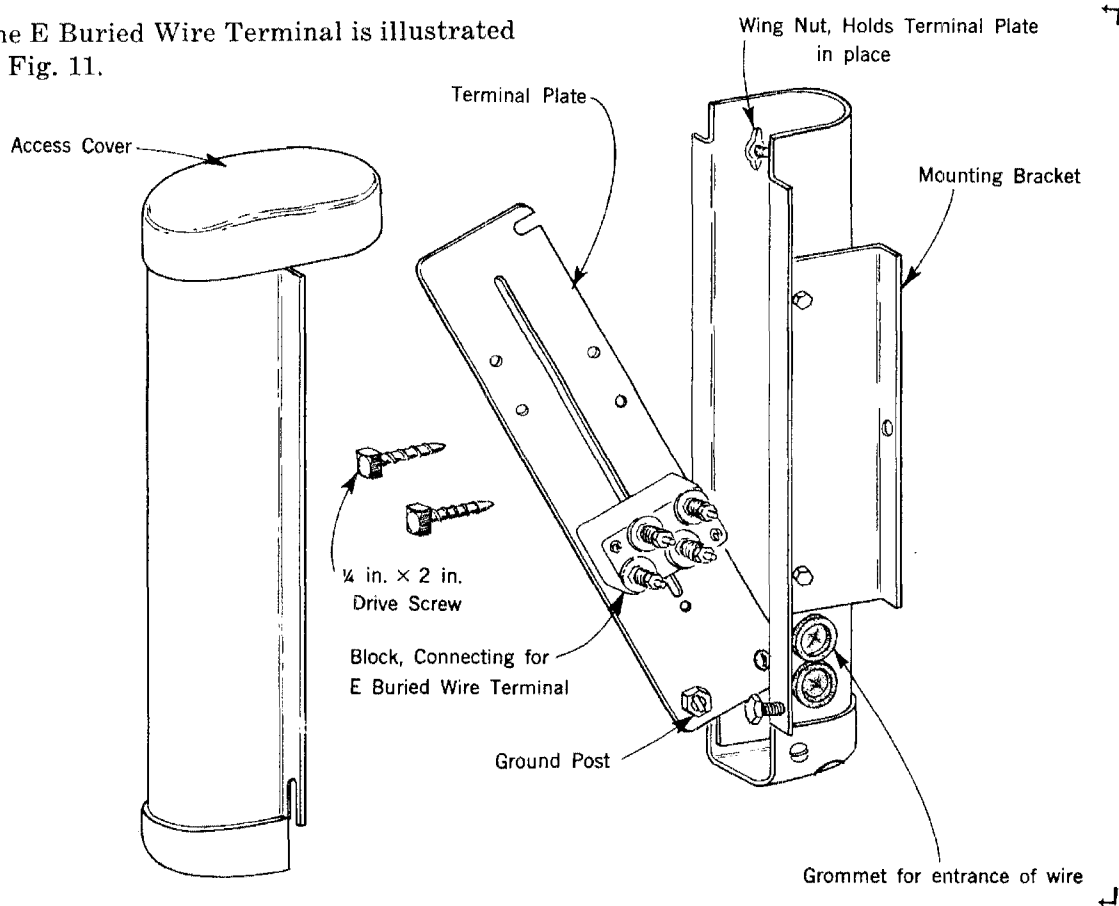

Fig. 11 – E Buried Wire Terminal
3.01 The E Buried Wire Terminal is illustrated in Fig. 11.